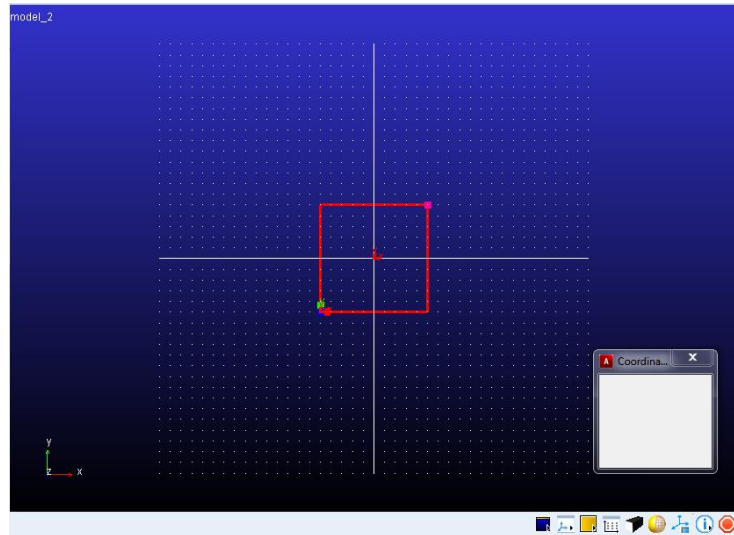

Figure 2.4
- Place the box on the working area according to Figure 2.4 below.